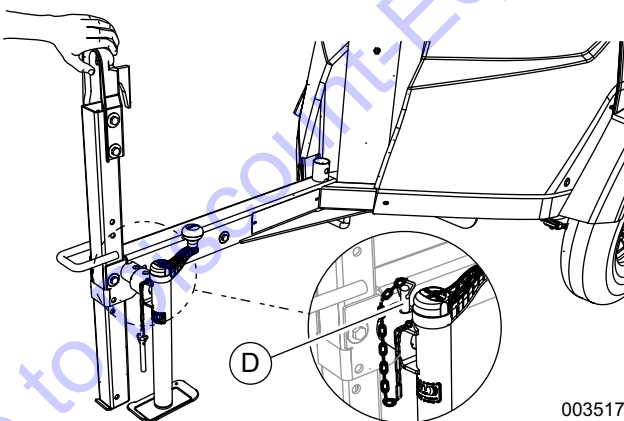

Figure 2-4. Jack Installed
4. See Figure 2-4. Install jack and secure with clevis (D).